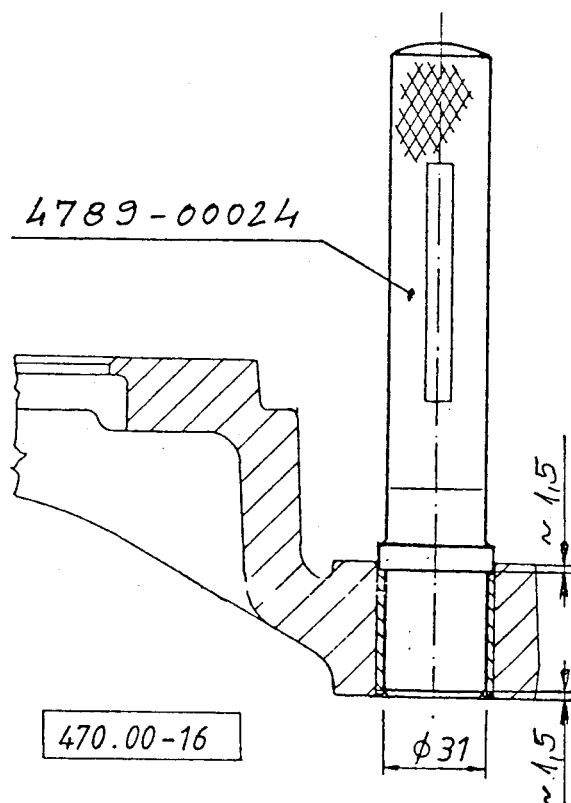

Fig. 1.: PRESSING THE BUSHINGS IN AND OUT
If the anchor pin bushing (16) are to be replaced, use the tool shown. **Fig. 1.**